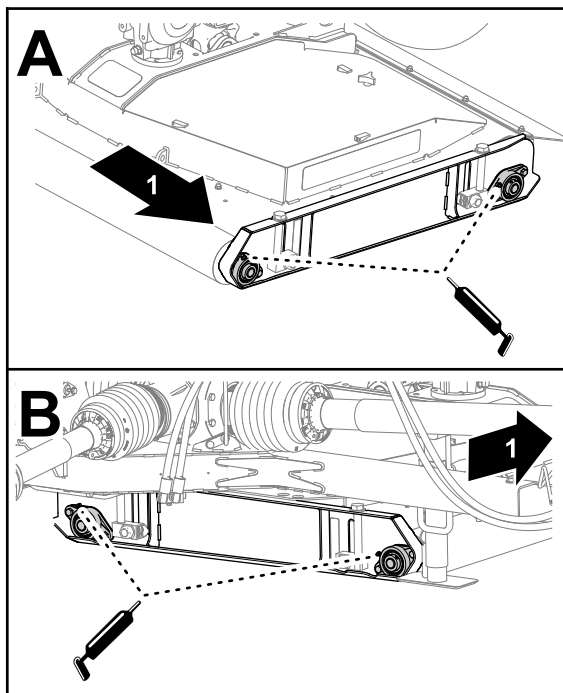

Figure 56
1. Apply the specified grease the deck roller bearings at the left side of the deck (Figure 56).
2. Grease the deck roller bearings at the right side of the deck (Figure 56).